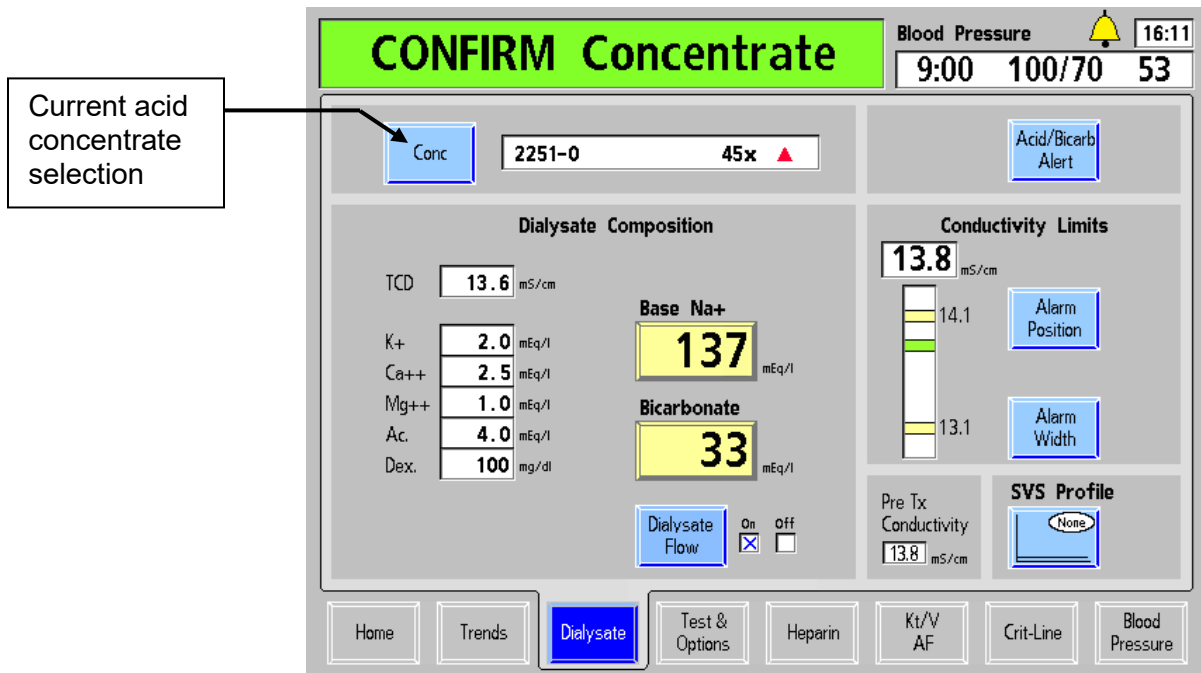

Figure 23 – Confirming Concentrates on the Dialysate Screen (functional software version 2.72 or later)
4. If the machine is being prepared for normal dialysis: select the **Dialysis** button on the display screen by highlighting the button with the touchpad and either tapping or pressing the **CONFIRM** key. The “Dialysate” screen will appear on the monitor (see Figure 23). (The optional touchscreen can be used by touching the **Dialysis** button directly.)